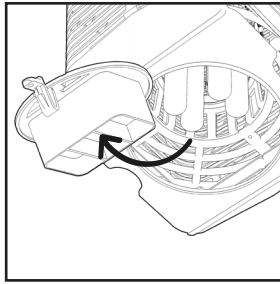

Fig. 2
4. Lift up grate to access bulb. *(Fig. 2)*